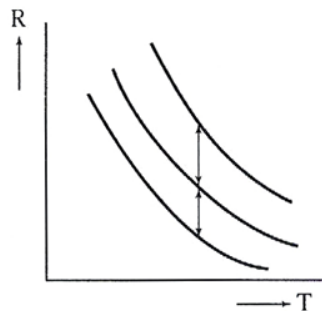

Figure 2.49
- The tolerance on the resistance named value of NTC is the one given for the reference temperature of 25°C, that is for R_{25} , and is a result of the divergence of B. In Fig. 2.49 you can see the change of R_{25} in relation with the temperature for some given tolerance.